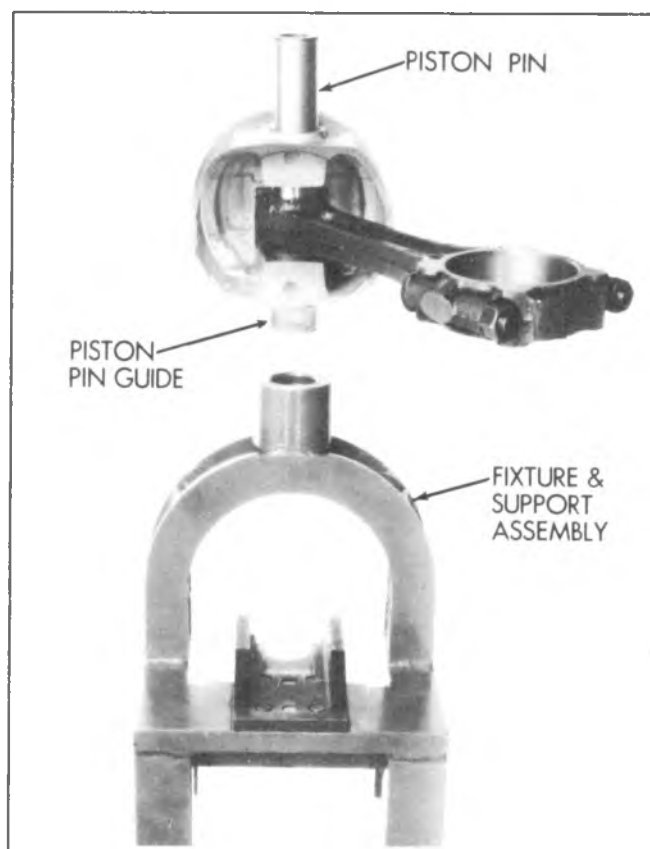

Fig. 6A-69V--Piston Pin Ready for Installation
with piston pin guide and piston pin. Place assembly on fixture and support assembly (fig. 6A-69V).
NOTE: See figure 6A-70V for correct size of piston pin guide.
3. Using piston pin installer, J-24086-9, press the piston pin into the piston and connecting rod (fig. 6A-71V).